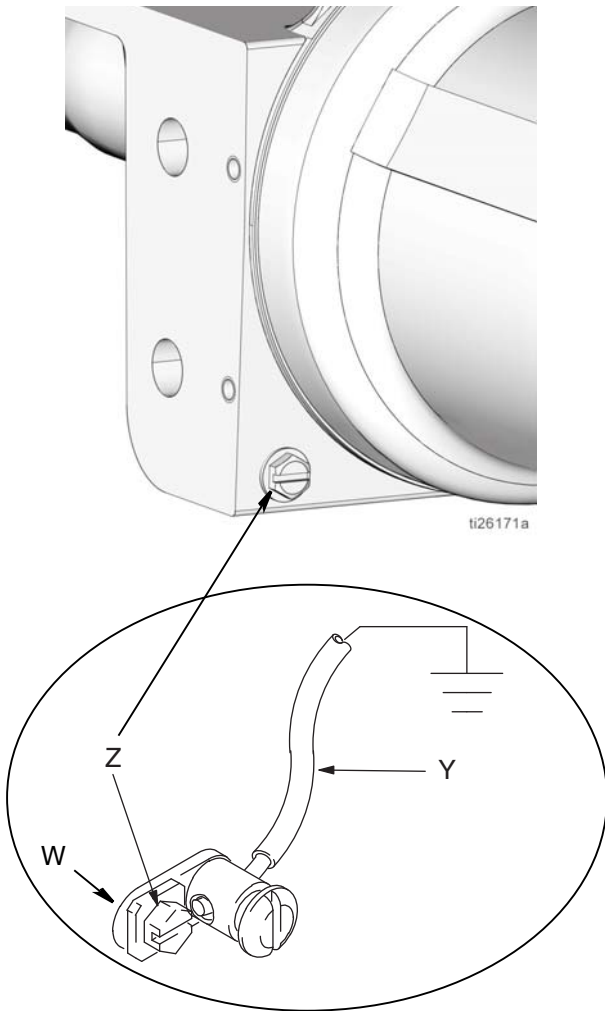

FIG. 2
To ground the pump: Remove the ground screw (Z) located on the back of the pump base and insert it through the eye of the ring terminal (W) at end of ground wire (Y). Fasten the ground screw (Z) back onto the pump and tighten securely. Connect the other end of the ground wire to a true earth ground. See FIG. 2.